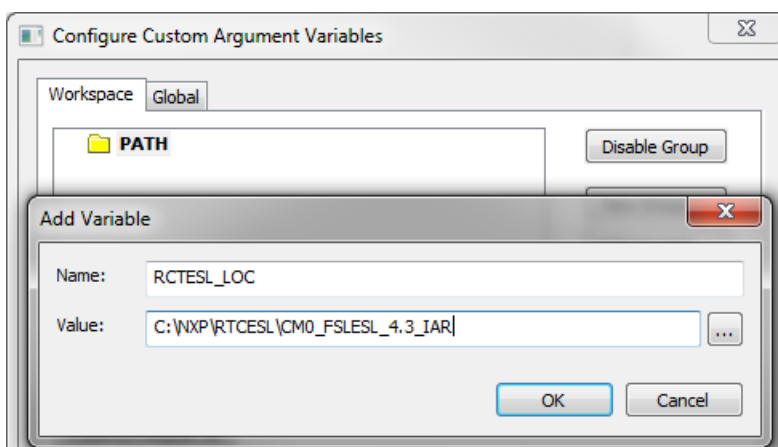

Figure 1-33. New variable
6. In the main dialog, click OK. See Figure 1-33.